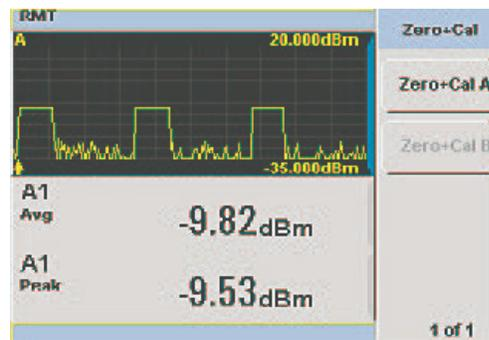

Figure 6. The Bluetooth signal with average and peak power
5. Activate the Bluetooth signal.	Toggle [RF On/Off] and [Mod On/Off] to ON . See Figure 6.